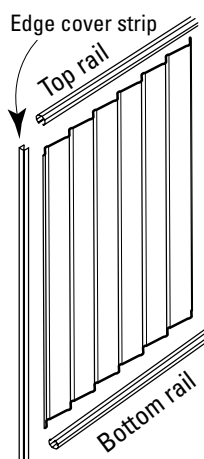

Figure 20.4
- 4) If required, fit edge cover strip to one side of the infill sheet for SMARTASCREEN or SPANSCREEN gates. (Figure 20.4)